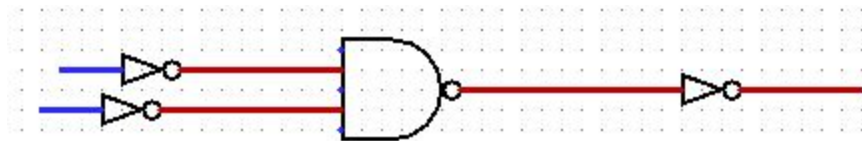

Figure 4.8: A design of a NOR function using one NAND gate and three inverters.
1.) Below in figure 4.8 is our design for a NOR function using one NAND gate and 3 inverters.